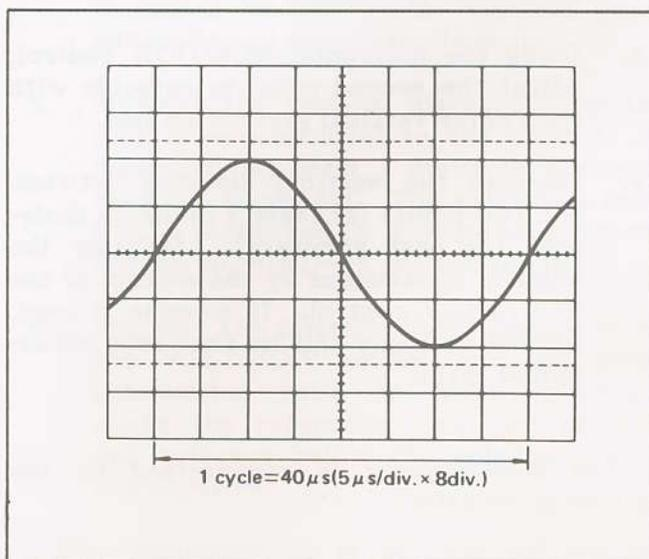

Fig. 8. Frequency Measurement.
Method No. 1 (Refer to Fig. 8)
1. Set up the oscilloscope to display one cycle of waveform (see Fig. 8).
In the example shown in Fig. 8, a period of 40 μs is observed. Substituting this value into the above equation, the frequency is calculated as follows: